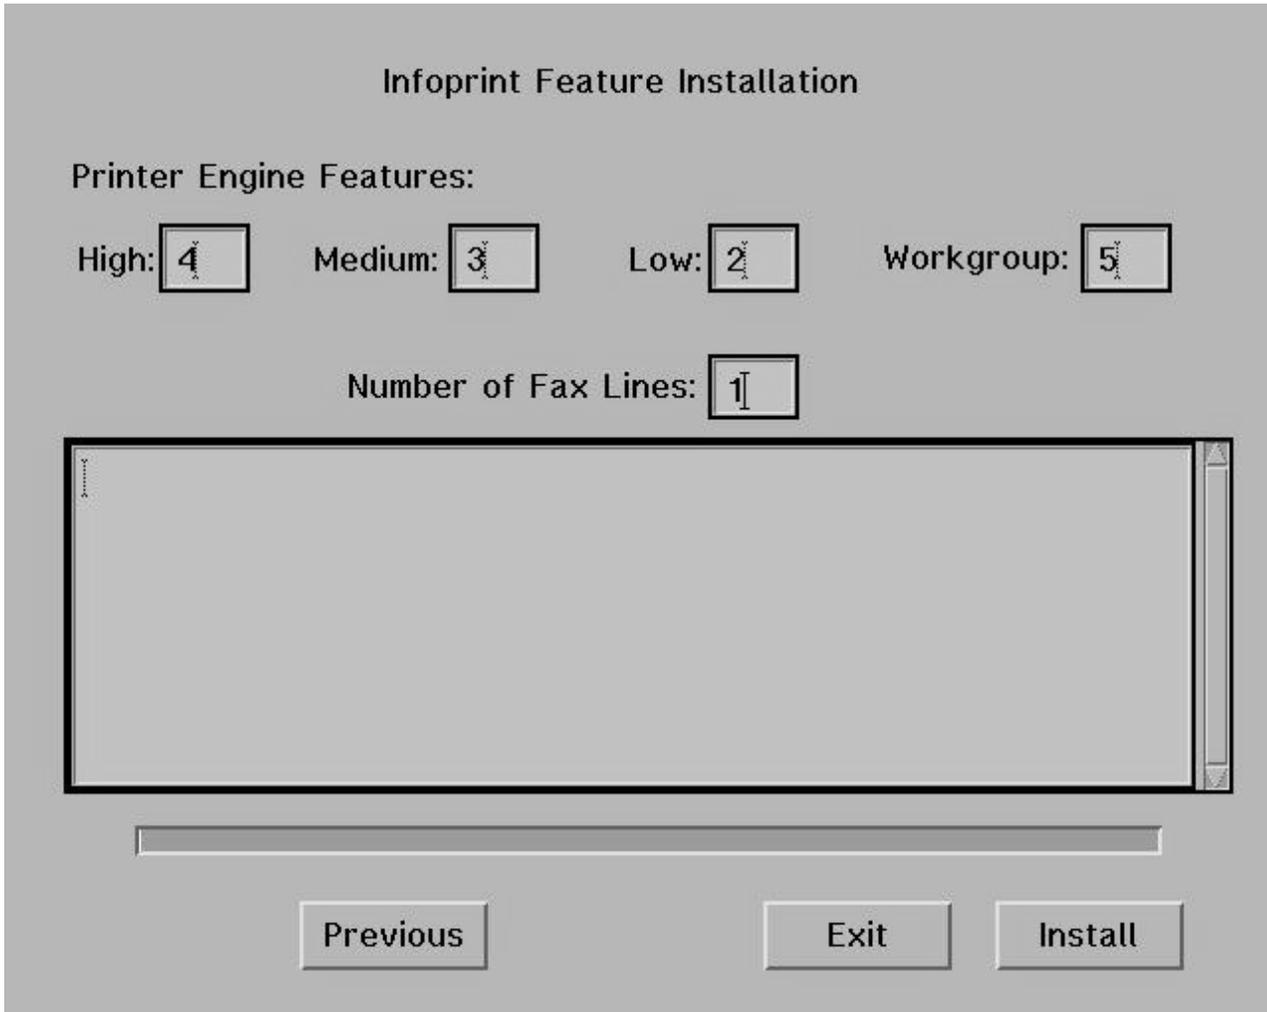

Figure 16. Infoprint Feature Installation panel.
7. The Installer displays the screen for specifying the correct number of licensed printers (see Figure 16). Fill in the appropriate information and click **Install**.
8. When you click the **Install** button on Figure 16, the Installer: